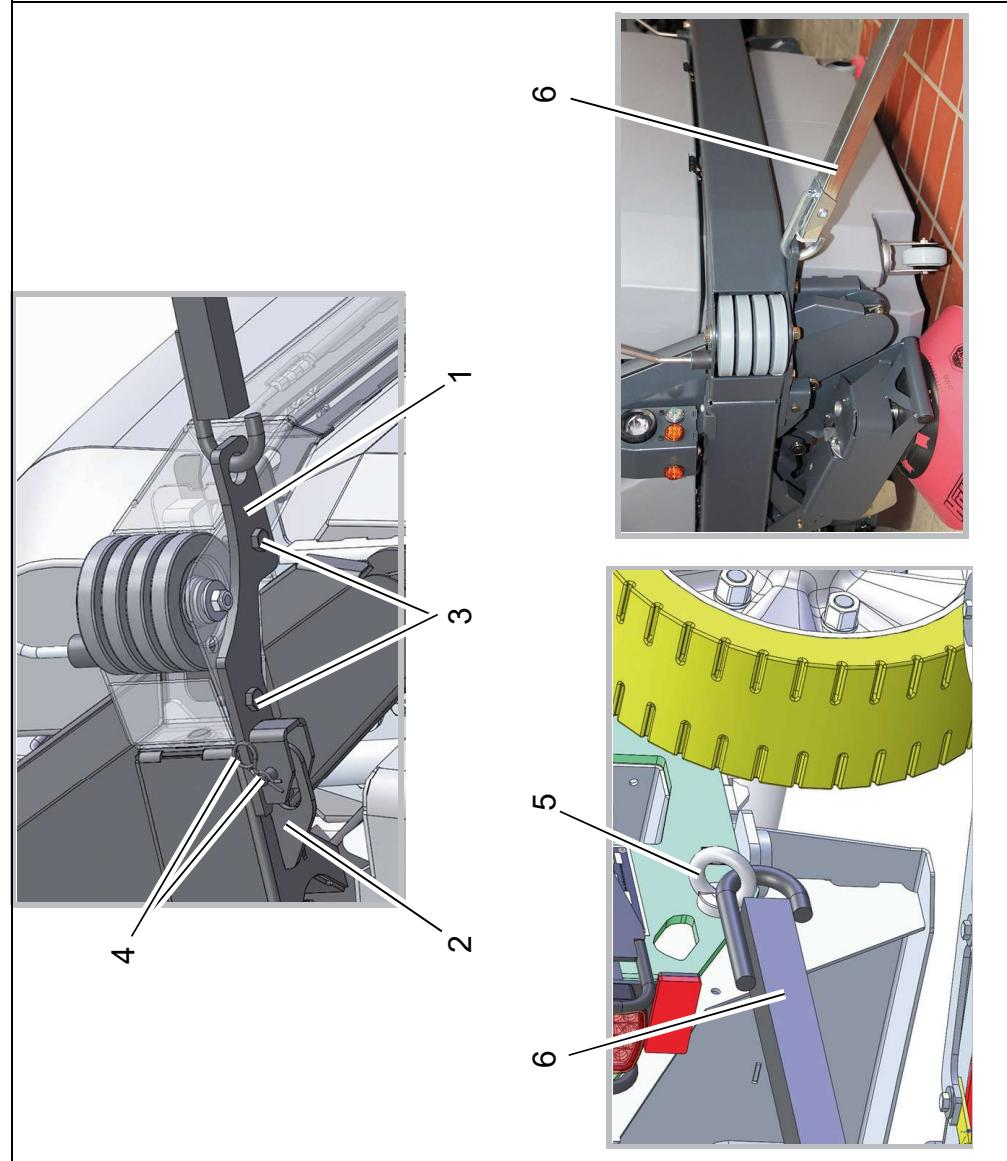

Fig. 3
1. Slide the towing coupling (Fig. 3/1) over the tab (Fig. 3/2) underneath the bar according to the illustration.
2. Attach the towing coupling with both M12x35 hexagon head bolts (Fig. 3/3) and secure it with the bolt and the split pin (Fig. 3/4).
Insert the eyebolt (Fig. 3/5) at the rear on the right-hand side of the machine through the existing hole and secure it with the M12 nut.
The machine can be towed with a standard towbar (Fig. 3/6) for cars up to 3 t.